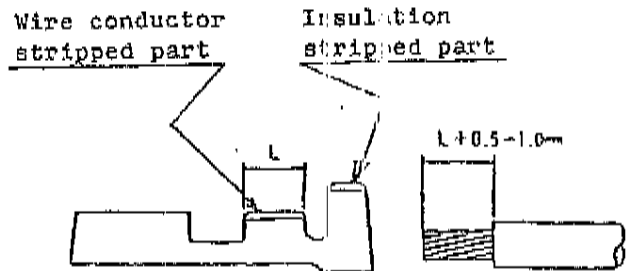

Fig. 3
(2) Strip a wire of the insulation per Fig. 3.